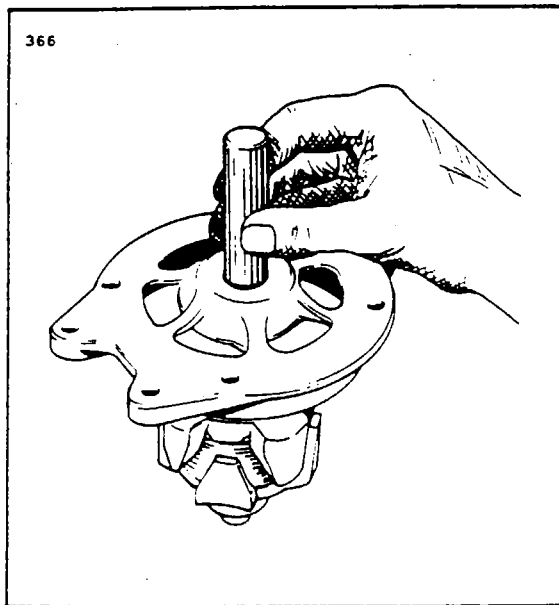

Figure 10-24h. Installation of Bearing
a. Press the ball bearing into the drive end head using a flat block approximately two inch square so that the pressure is exerted on the outer race of the bearing. Install the retainer plate. With the snap ring and retainer cup in place on the rotor shaft, use a tool that fits over the shaft and against the inner bearing race, and press until the inner bearing race is against the snap ring retainer cup. (Refer to Figure 10-24h.)